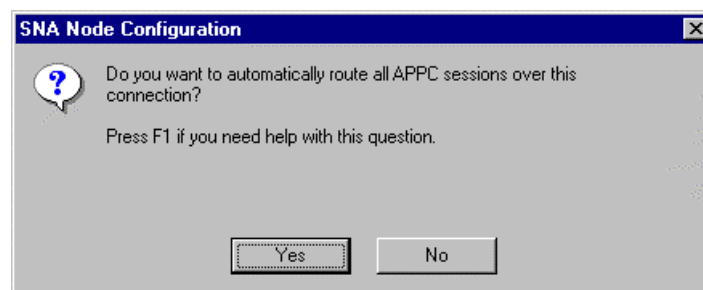

Figure 7-23. APPC Prompt
4. When you define a new connection, you will be automatically prompted whether or not you want APPC traffic automatically routed across the connection or not (Figure 7-23). Answer “Yes” if you want Communications Server to create a wildcard (*) partner LU definition which will forward all LAN APPC sessions over this connection.